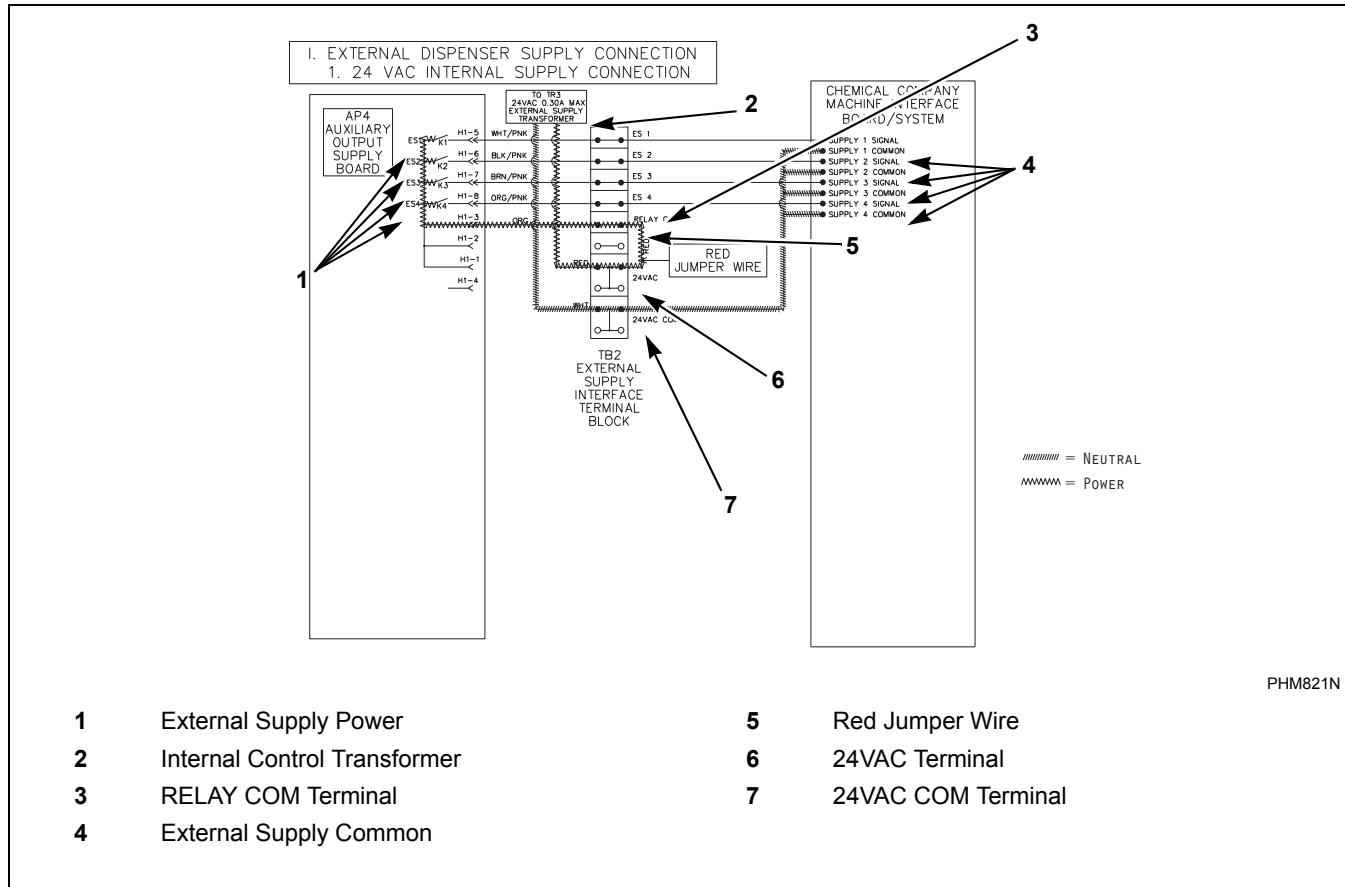

Figure 31
- The second terminal is used to connect the other side of the control transformer to the washer-extractor output signals common through a red jumper wire between “24VAC” and “RELAY COM”. Refer to *Figure 31*.